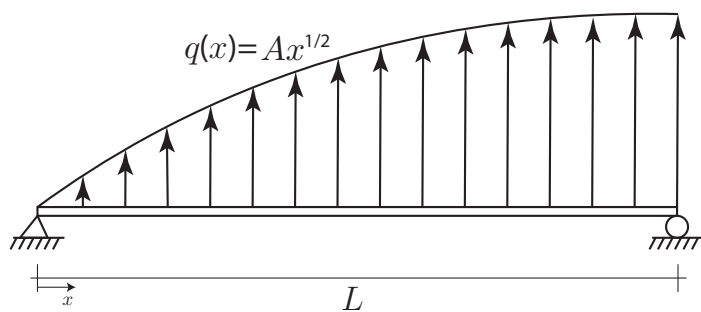

Figure 13: Problem 13.
13. The beam in Fig. 13 is subjected to a distributed load $q(x) = Ax^{1/2}$ (Force/Length). Find the equivalent point force system to this distributed load, its magnitude and the location where it acts.